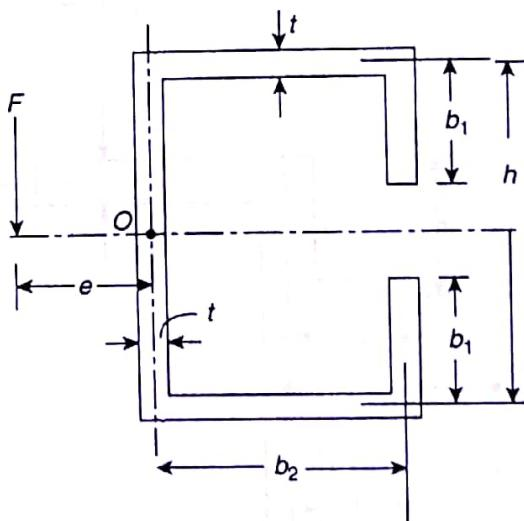

Figure 18.38 Practice Problem 2
2. Figure 18.38 shows a section of a beam subjected to shear force F . Locate the position of the shear centre as defined by e .